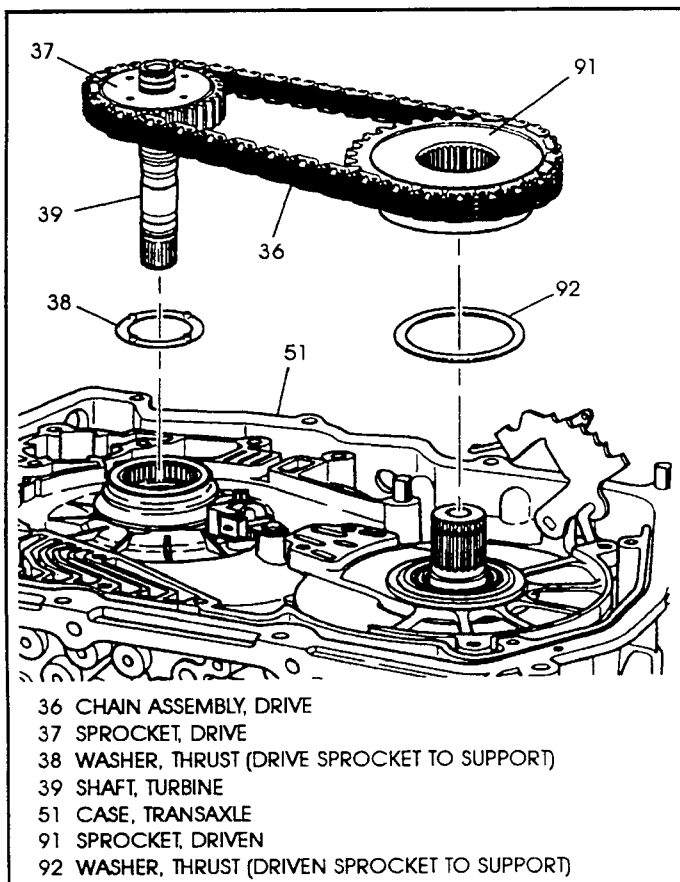

Figure 166
5. Install the drive sprocket to drive sprocket support thrust washer (38) into drive sprocket with the tabs on the thrust washer in the holes of the drive sprocket and retain with a small amount of "Trans-Jel" (See Figure 166).
6. Install the driven sprocket to driven sprocket support thrust washer (92) onto the driven sprocket support and retain with "Trans-Jel". (See Figure 166).
8. Install the drive sprocket, driven sprocket and chain assembly into the transaxle as a complete assembly, as shown in Figure 166.